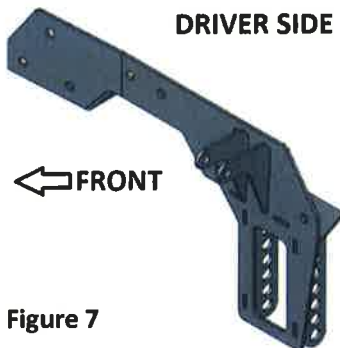

Figure 7
- Complete steps 1-5 for the driver side notch bracket. (Figure 7)